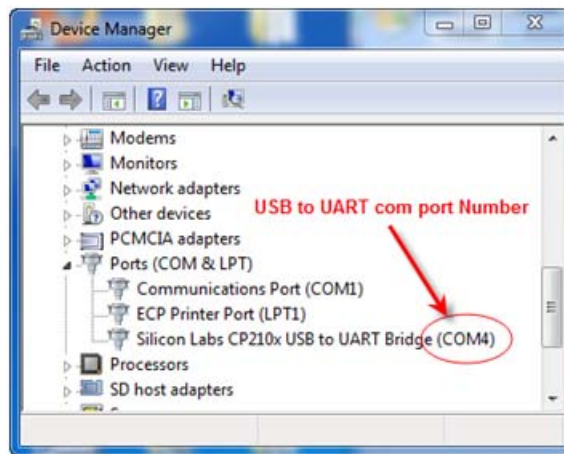

Figure 1-31: USB to UART COM Port Number
- Hyperterminal (Tera Term) with the serial port setup shown in Figure 1-31
1. Open hyperterminal (Tera Term) with the settings shown in Figure 1-31